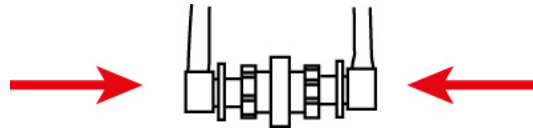

Figure 21 – Secure the Luer adapters in the Female Luer Coupler.
- (b) Make sure the Luer adapters in the Female Luer Coupler are secure (Figure 21).